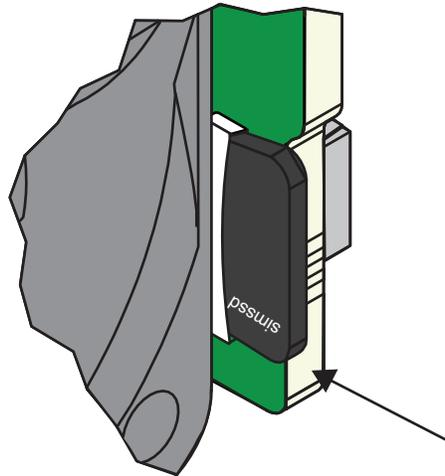

Figure 6 Positioning the MicroSD Card
2. Orient the MicroSD card so that the printed side faces the fan and the print is upside down. Refer to **Figure 6**.